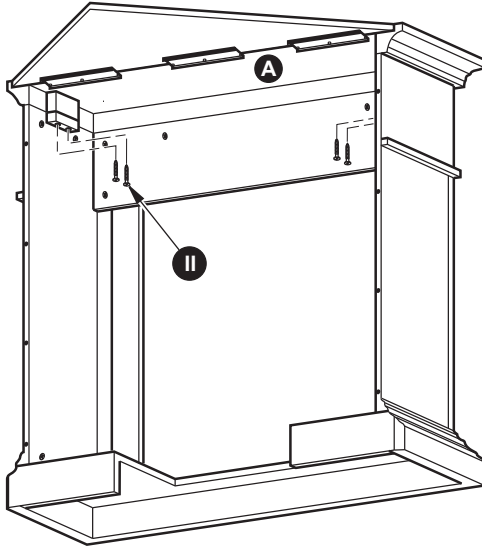

Figure 38
10. Fasten the wooden support brackets attached to the top of the mantel assembly to the Top (A) with 4) ST4 Screw 1 $\frac{9}{16}$ " (II) as shown in Figure 38.